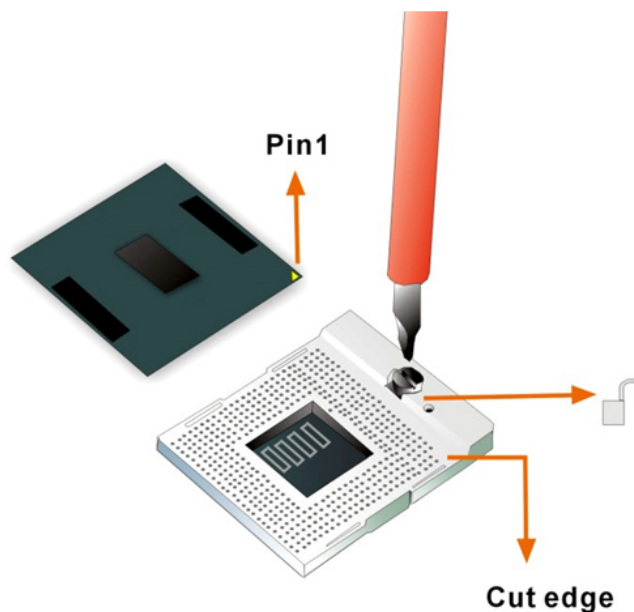

Figure 4-1: Unlock CPU socket retention screw
Step 1: Unlock the CPU retention screw. When shipped, the retention screw of the CPU socket should be in the unlocked position. If it is not in the unlocked position, use a screwdriver to unlock the screw. See **Figure 4-1**.
- Step 4: Correctly position the CPU.** Match the Pin 1 mark with the cut edge on the CPU socket. See **Figure 4-1**.